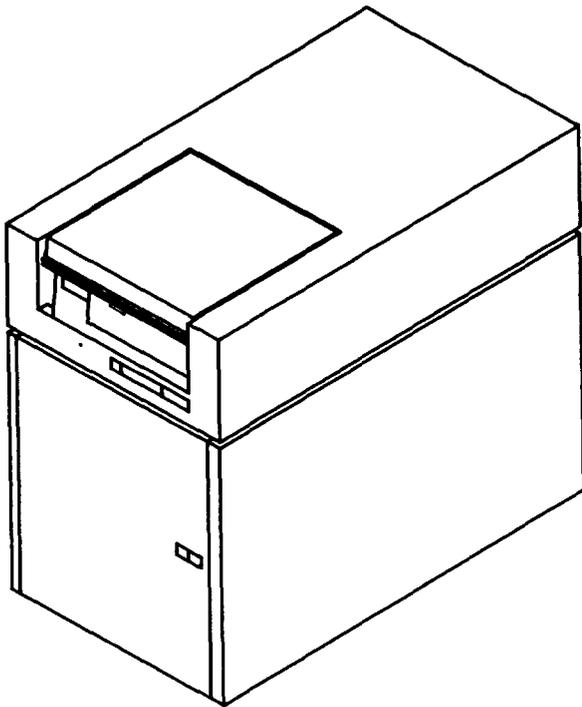
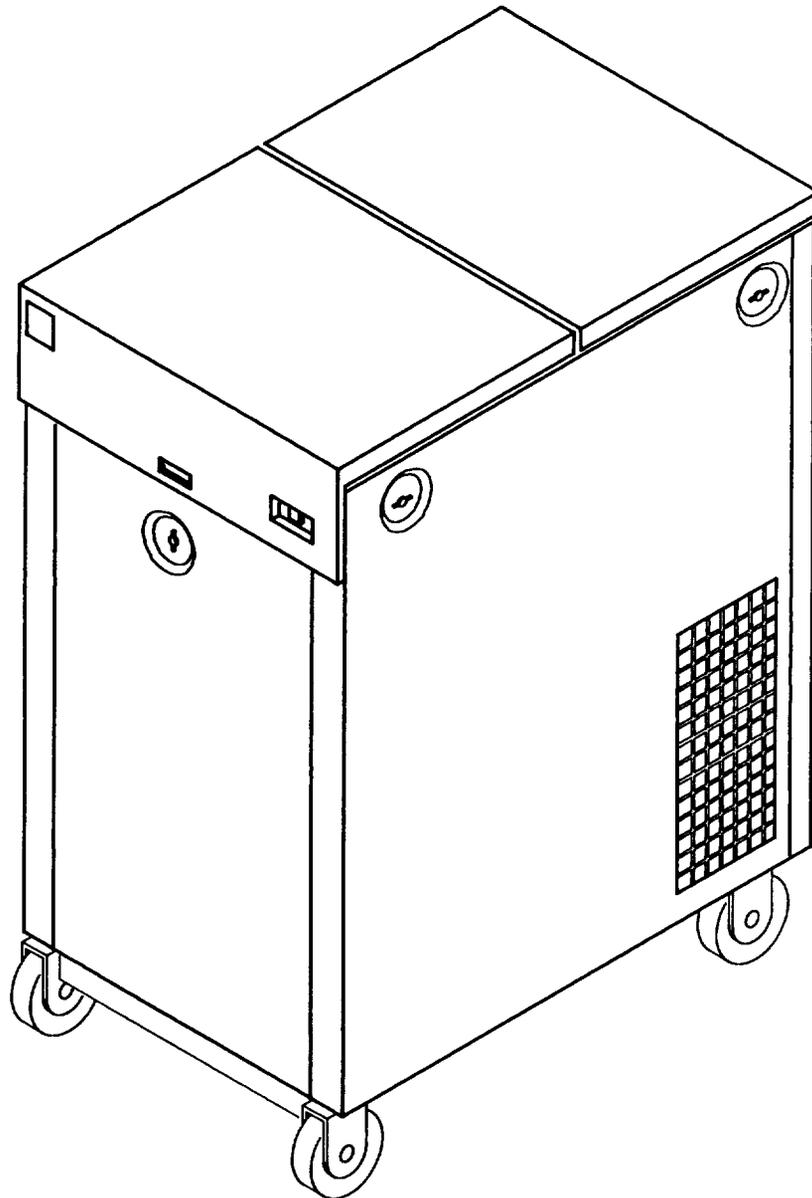

Fig. 3—KS-22072/KS-22707, L1, Disk Drive
Fig. 4—KS-22072, L2, Disk Drive
2.02 The disk drives are installed in enclosures that are acoustically insulated to reduce noise levels. These enclosures measure 23 inches wide by 36.5 inches deep by 40.25 inches high. The complete moving head disk drive unit weighs approximately 500 pounds. Figure 3 illustrates the KS-22072/KS-22707, L1, disk drive. Figure 4 illustrates the KS-22070, L2, disk drive.